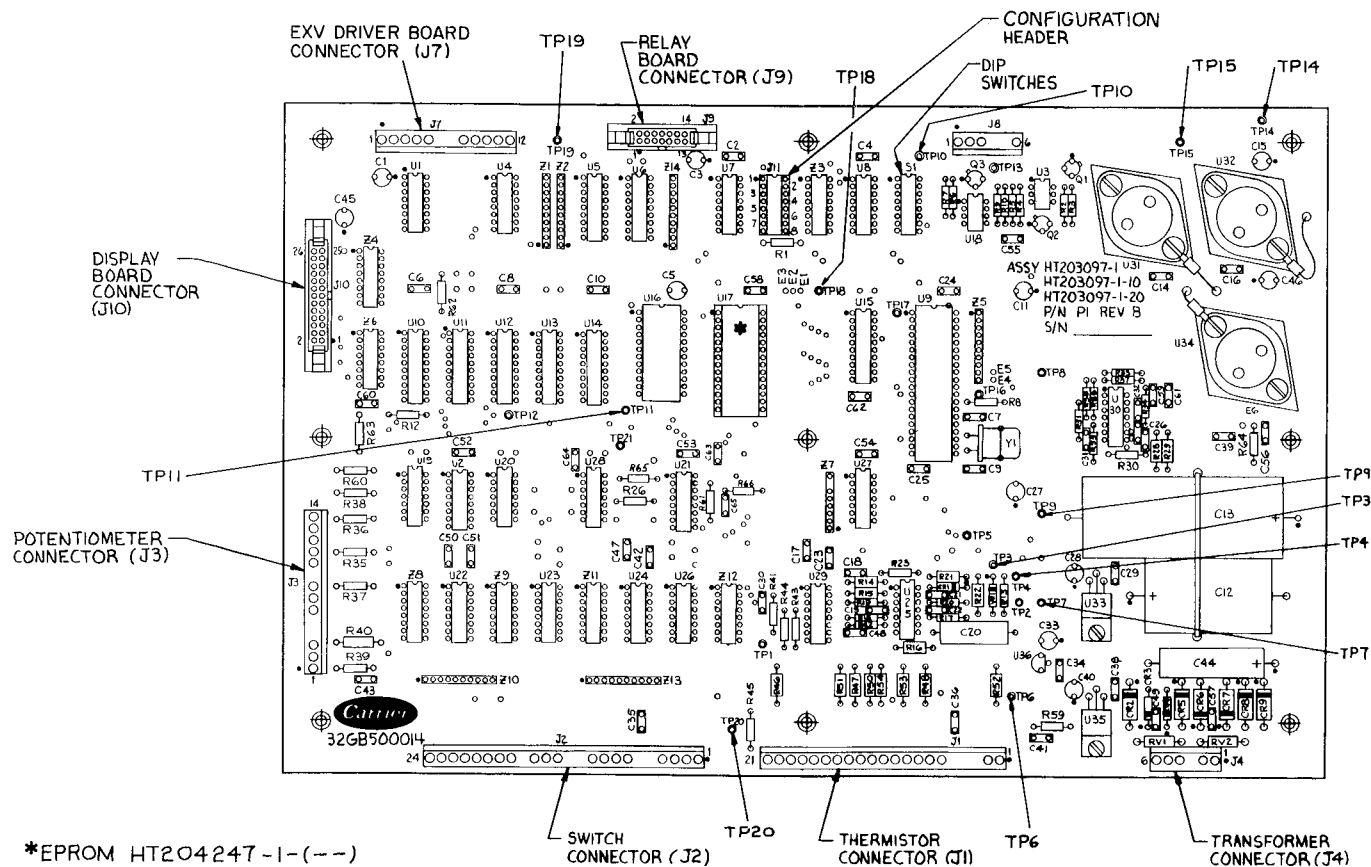

Fig. 21 — Processor Board
STEP 1 — CHECK TRANSFORMER INPUT TO PROCESSOR BOARD — Connector J4 (see Fig. 21) is used to connect the control transformer to the microprocessor board. Set your volt-ohmmeter to the ac voltage with a range setting of approximately 30 v. Turn the control ON-OFF switch ON and check the voltages at the connector. They should be as follows:
Connect the negative test lead to test pin TP18 or TP20 (see Fig. 21). Turn the control switch on and press the display button so that the control enters the Quick Test mode. Check the voltage at each of the test pins listed. If the voltage is not as specified, replace the processor board.
STEP 8 — POTENTIOMETER CONNECTION CHECK-OUT — Turn power OFF and disconnect plugs from J3. Connect negative test lead to terminal TP18 or TP20 on the processor board. Turn power on and enter Quick Test mode. You should get the following voltages at each pin on connector J3 (see Fig. 21).
STEP 9 — THERMISTOR INPUT CONNECTOR CHECK-OUT — Turn power OFF and remove thermistor connections from J1 (identify for replacing). Connect negative test lead to TP18 or TP20. Turn power on and enter Quick Test. Check for the following voltages at connector J1 (see Fig. 21).